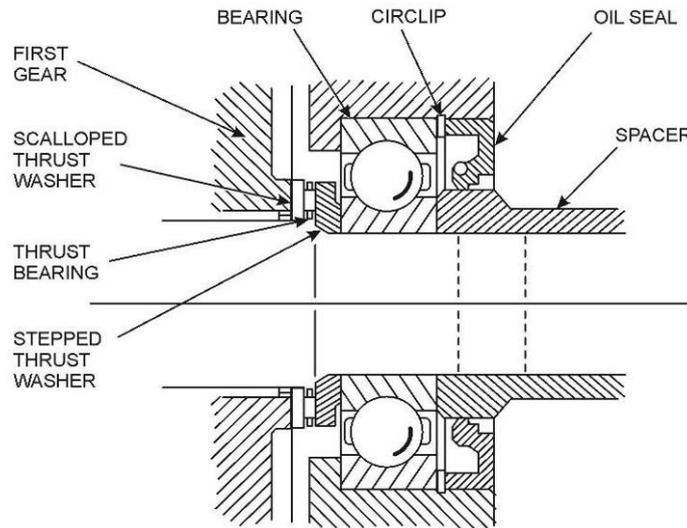

Figure 58 Seal and Rear Spacer – Installation
- h.** Install the mainshaft rear spacer on the shaft and position it in the seal (Figure 58).